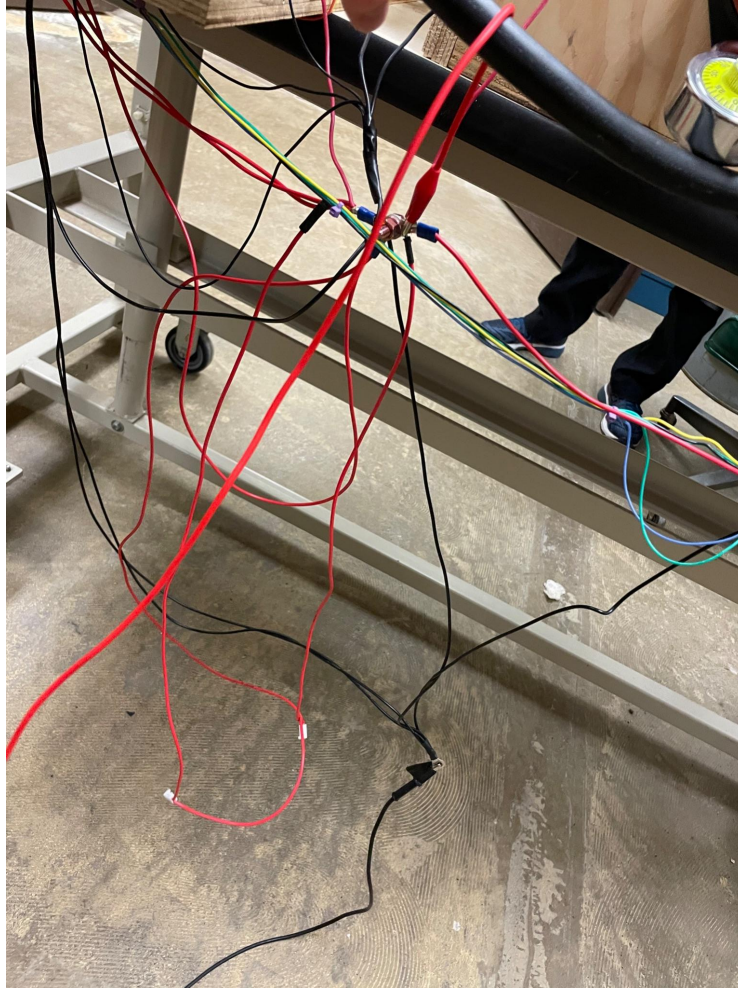

Figure 2. Connection to the vehicle's "power points" (The black wire towards the bottom is ground, the cluster of red wires connected with a screw is positive).
2. Connect the other end of the red and black wires to the "power points" on the vehicle test bench as shown in figure 2 below.